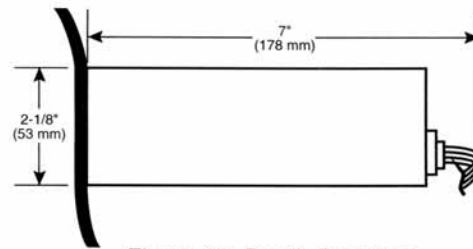

Figure 26. Depth Required.
4. Make sure there is a clearance of at least seven inches (178 mm) behind the dash (see Figure 26).